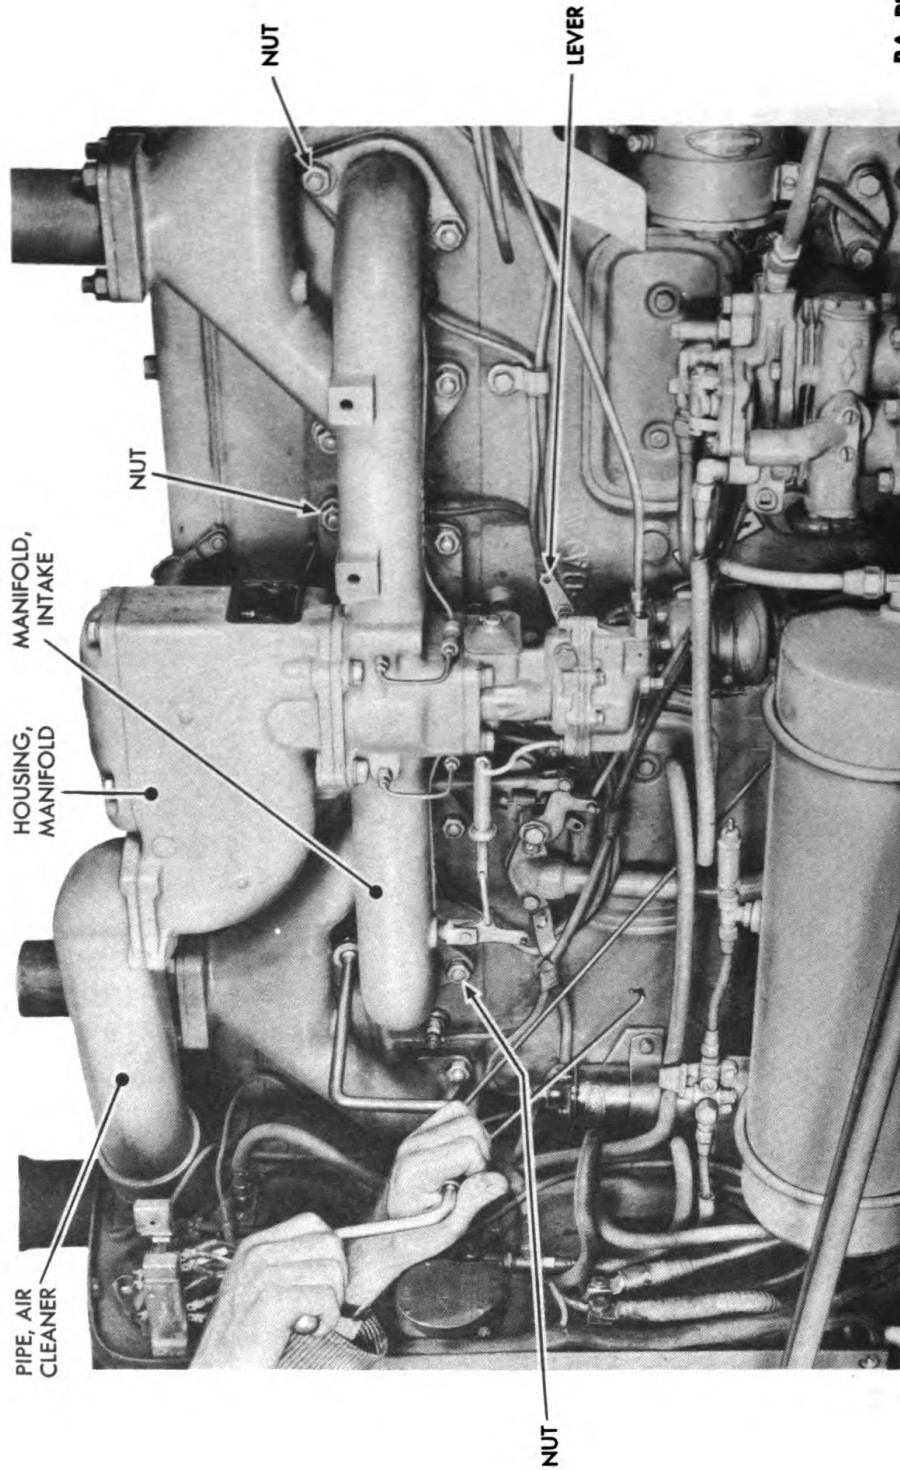

Figure 138 — Intake Manifold Removal
(11) **REMOVE INTAKE MANIFOLD** (fig. 138).